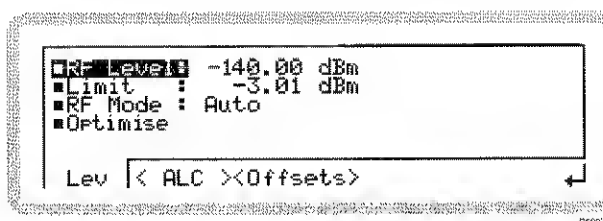
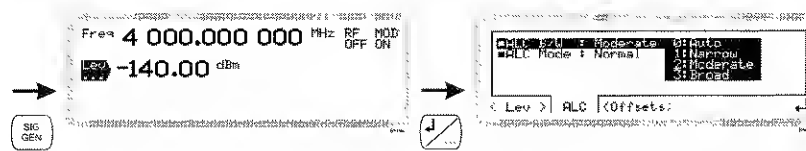
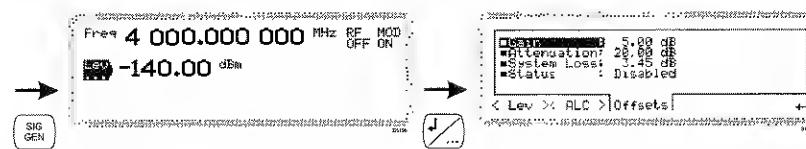

Fig. 3-21 RF level
Fig. 3-22 ALC
Fig. 3-24 RF level offset
- 2 Press **[F4]** to view the sub-menus. *RF Level* is highlighted (Fig. 3-21).
From the RF level menu of Fig. 3-21, touch <ALC> or press **<TAB>** to display the ALC screen (Fig. 3-22).
- 1 From the RF level menu of Fig. 3-21, touch <Offsets> or press **<TAB>** to display the RF offset screen (Fig. 3-24).